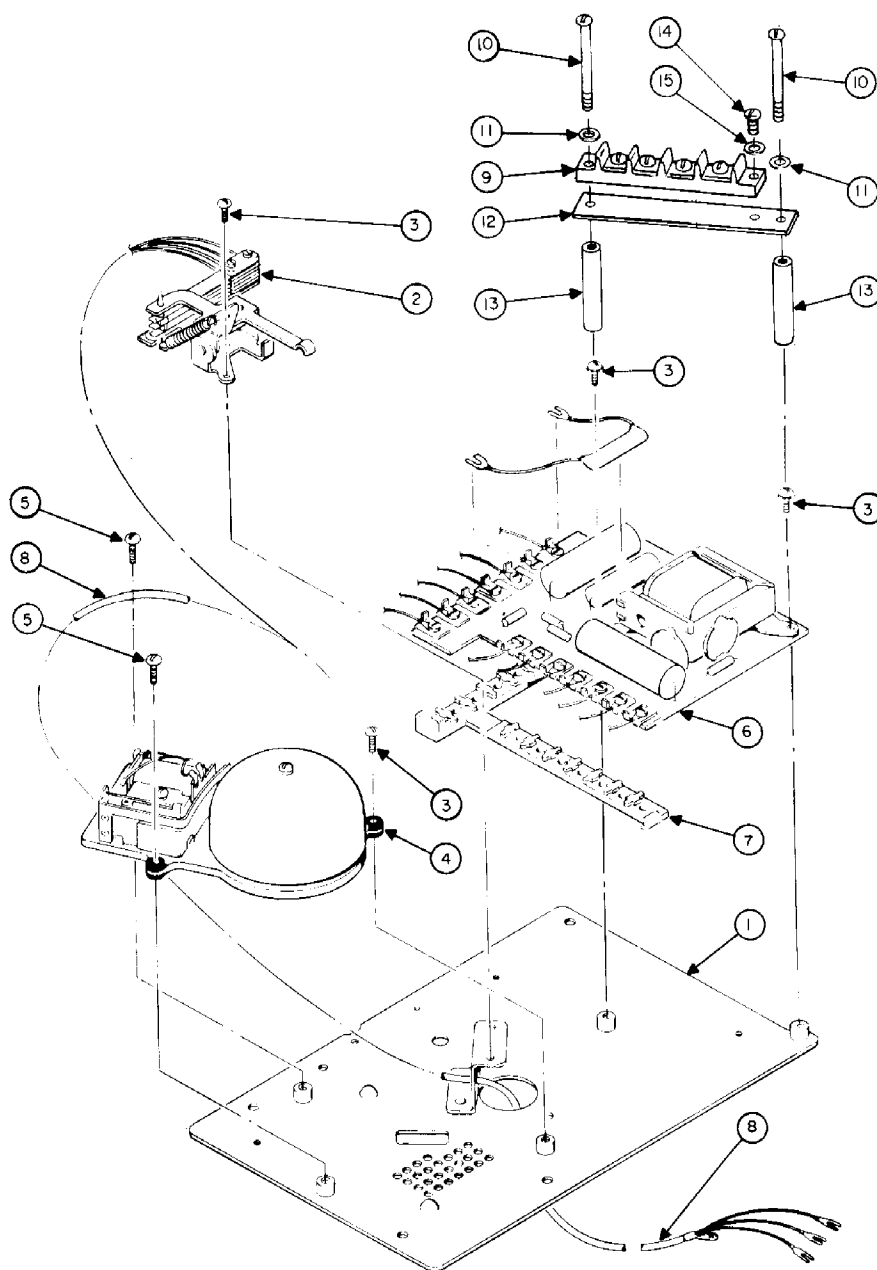

Figure 2. Apparatus Assembly.
4.01 For disassembly of the chest, hookswitch actuator, base, apparatus assembly, dial, or Touch Calling unit, refer to Table 4 and Figure 4. Use Figure 2 and Table 2 for the disassembly of the apparatus assembly. Figure 5 and Table 5 are used in disassembling the handset.
4.04 Remove the apparatus assembly (6) by removing the four screws (7) which hold the baseplate (1, Figure 2), and carefully lifting the assembly out of the base frame (8). Be careful, the dial or Touch Calling leads are connected. The apparatus plate for the dial version is disassembled as described in paragraph 2.07. The Touch Calling version is disassembled as described in paragraph 4.09.
4.09 Disassemble the Touch Calling apparatus plate assembly as shown in Figure 2 as follows:
- (b) Remove the hookswitch (2) by removing the two screws (3) and disconnecting the leads from the transmission unit (6) and terminal strip (9).
- (c) Remove the ringer (4) by disconnecting the leads from the transmission unit and removing the three screws, one (3) and two (5).
- (e) Remove the two screws (10) and washers (11) which mount the terminal strip (9), mounting plate (12), spacers (13) and transmission unit (6). Unsnap the spacer (7) from the transmission unit.
- (f) Release the strain relief clamp of the line cord (8) and handset cord from the baseplate (1).